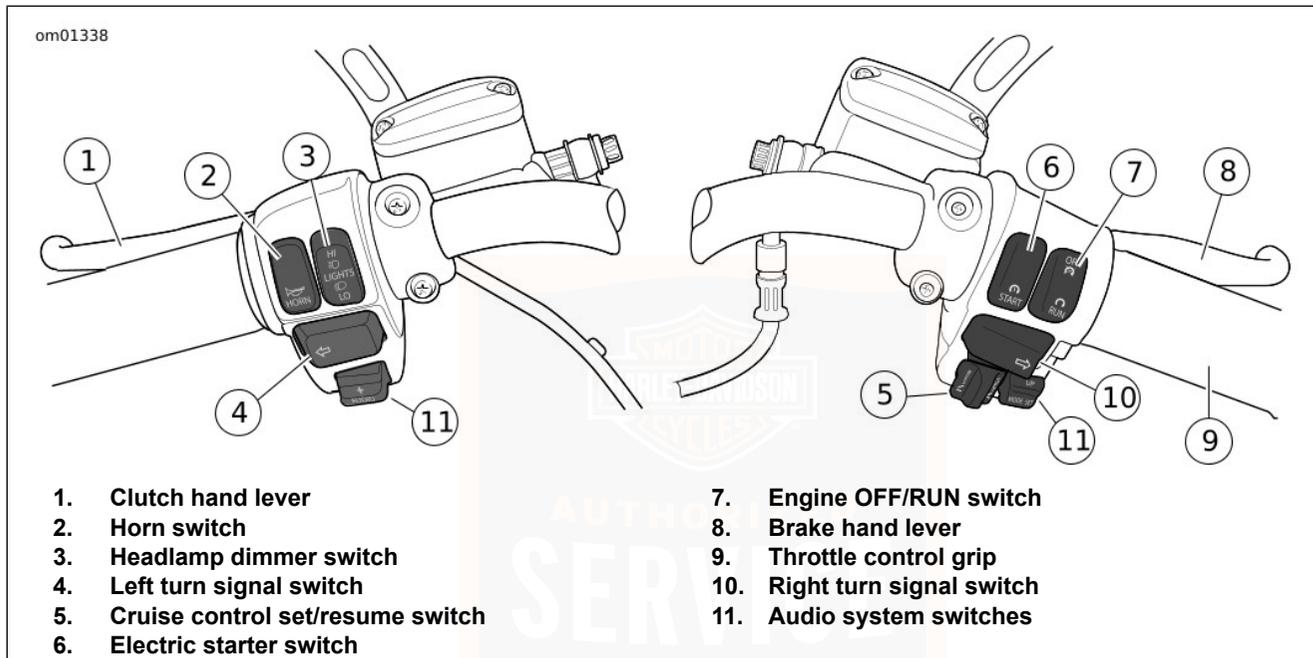

Figure 5. Handlebar Controls
See Figure 5. The clutch hand lever (1) is located on the left handlebar and is operated with the fingers of the left hand.
See Figure 5. The horn is operated by pushing on the horn switch (2) located on the left handlebar control group.
See Figure 5. The headlamp dimmer switch (3) is located on the left handlebar. The switch has two positions to activate the headlamps high or low beams.
See Figure 5. Each handlebar control group contains a turn signal switch.
See Figure 5. The electric starter switch (6) is located on the right handlebar control group. See OPERATION > STARTING THE ENGINE (Page 114) for detailed operation procedures.
See Figure 5. The engine OFF/RUN switch (7) turns the ignition power ON or OFF. The engine OFF/RUN switch is located on the right handlebar control. Push the top portion of the engine OFF/RUN switch to turn off ignition power and shut the engine off. Push the bottom portion of the engine OFF/RUN switch to turn on ignition power.
See Figure 5. The front brake lever (8) is located on the right handlebar. This lever applies mechanical pressure to the front brake master cylinder and the master cylinder applies hydraulic pressure to the front brake calipers.
See Figure 5. The throttle control grip (9) is located on the right handlebar control and is operated with the right hand.
See Figure 5. The cruise control resume/set switch (5) automatically maintains the speed of the motorcycle. Cruise control must be first turned on using the cruise control switch in the inner fairing. Refer to OPERATION > CRUISE CONTROL OPERATION (Page 117) and CONTROLS AND
See Figure 5. The audio system switches (11) operate various functions for the Advanced Audio System. Refer to OPERATION > CRUISE CONTROL OPERATION (Page 117).